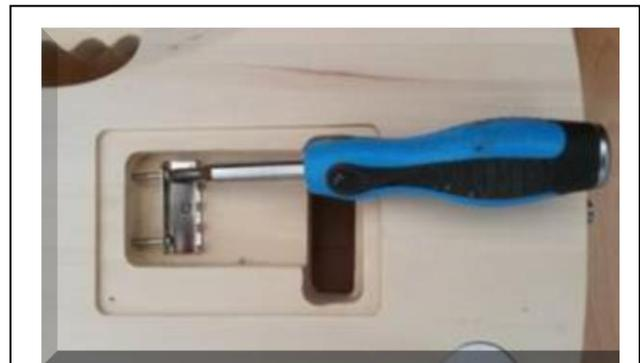

Figure 2.4 Tremolo claw Alignment
Place the Tremolo claw in the back pocket of the Body (Fig 2.4) ensuring the claw is centered in the pocket.
3. Start the mounting screws approximately ½” into the Body – ensure they are centered (Figure 2.4).